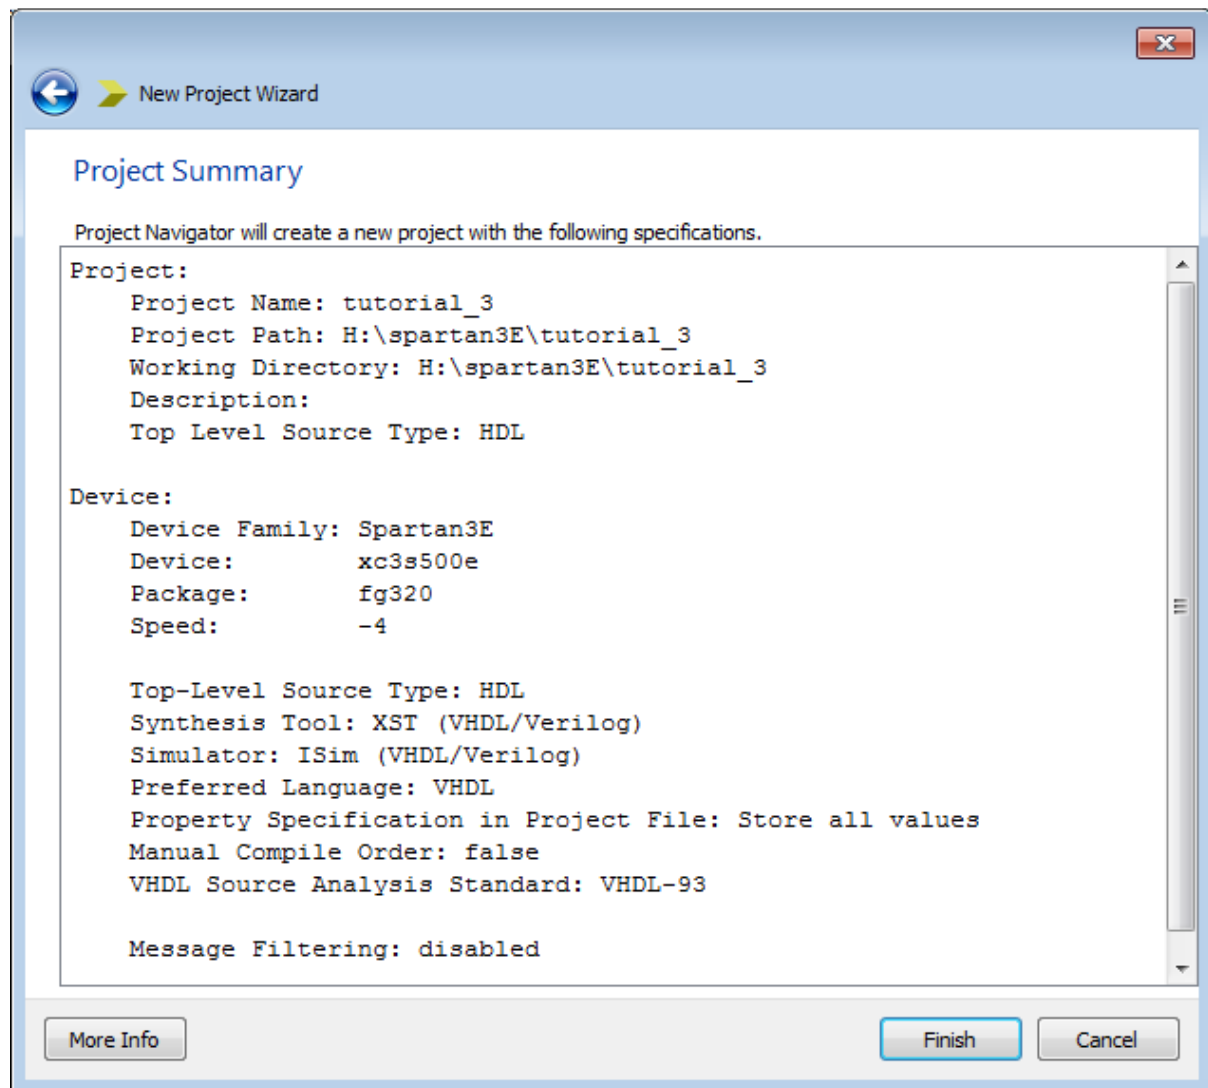

Figure 6.14: New Project Wizard, Project Summary Page.
7. Click **Next** to move to the **Project Summary** page, which will appear as shown in Figure 6.14.